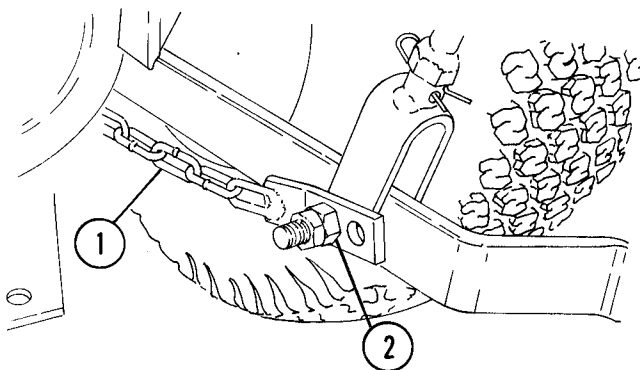

Fig. 5 — Check Chains
4. Position tractor lift arm check chains in front hole as shown in Figure 5.